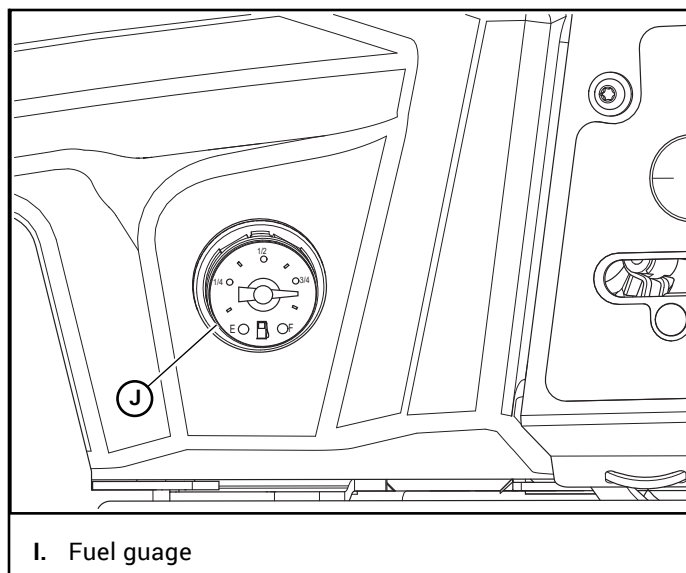

Figure 3-2
- I. **Fuel tank gauge (Figure 3-2)** – this gauge shows the fuel level in the fuel tank.